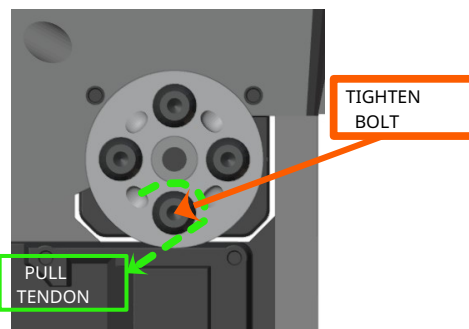
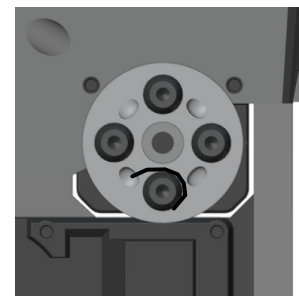

Figure 5.67: Rotation
Figure 5.63: Tendon
6. Pull the extension end of the tendon from the bottom hole (until the finger is straight) and fix it to the bottom bolt with a clockwise rotation around it (figure 5.67). While holding the tendon tight with a manual assembly plier, tighten the bolt well to lock the tendon (figure 5.38). The figure 5.63 shows the completed operation.